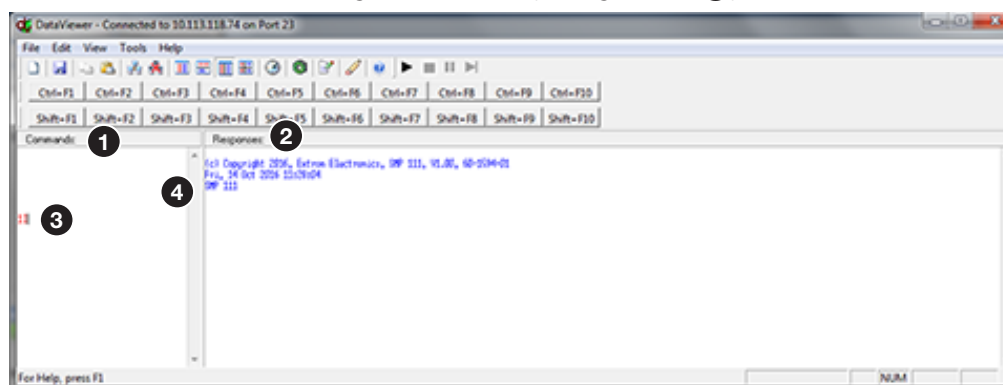

Figure 76. Enter Commands and View Responses
5. The main **DataViewer** dialog opens and the SMP 111 responds with a copyright statement containing the model number, part number, and current firmware version of the connected SMP 111, along with the date (see figure 76, ②).
6. Use the **Commands** field to enter SIS commands (see figure 76, ①). View the responses in the **Responses** field (②).